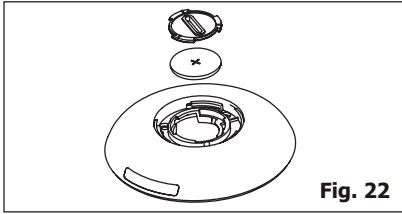

Fig. 22
3. Use the same way to open the protecting cover inside and take out the battery.(Fig.22)